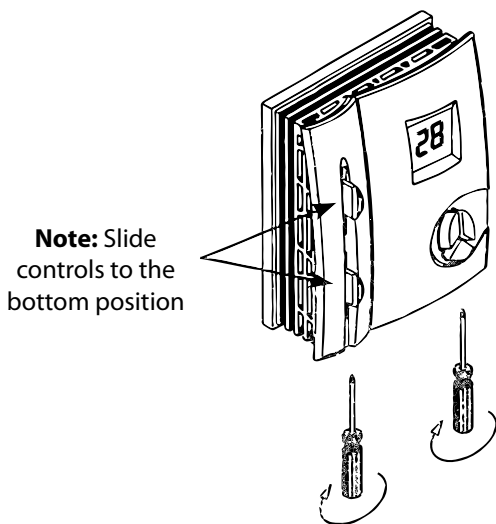

Figure 2
2. Use a screwdriver to loosen the screws at the bottom of the humidistat as shown in Figure 2.